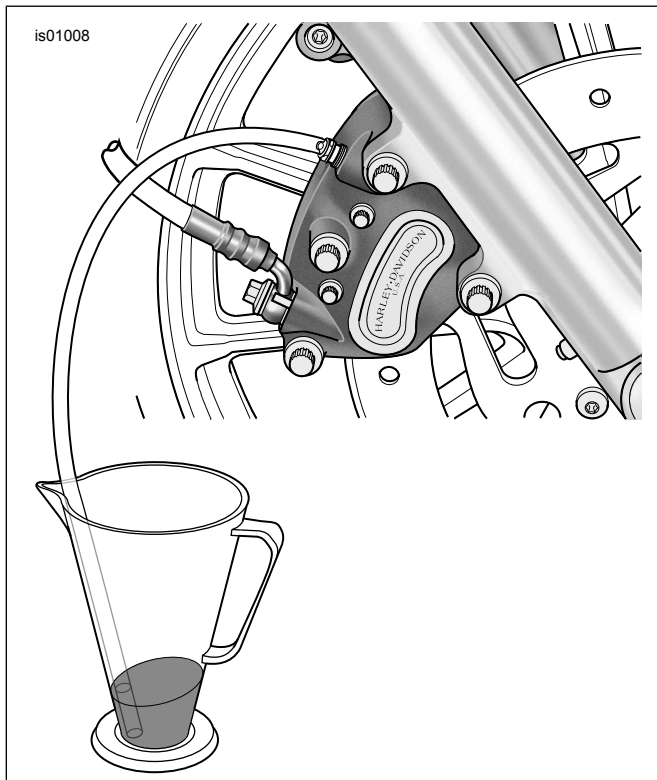

Figure 2. Draining Brake Fluid
1. See Figure 2. Drain the brake fluid.